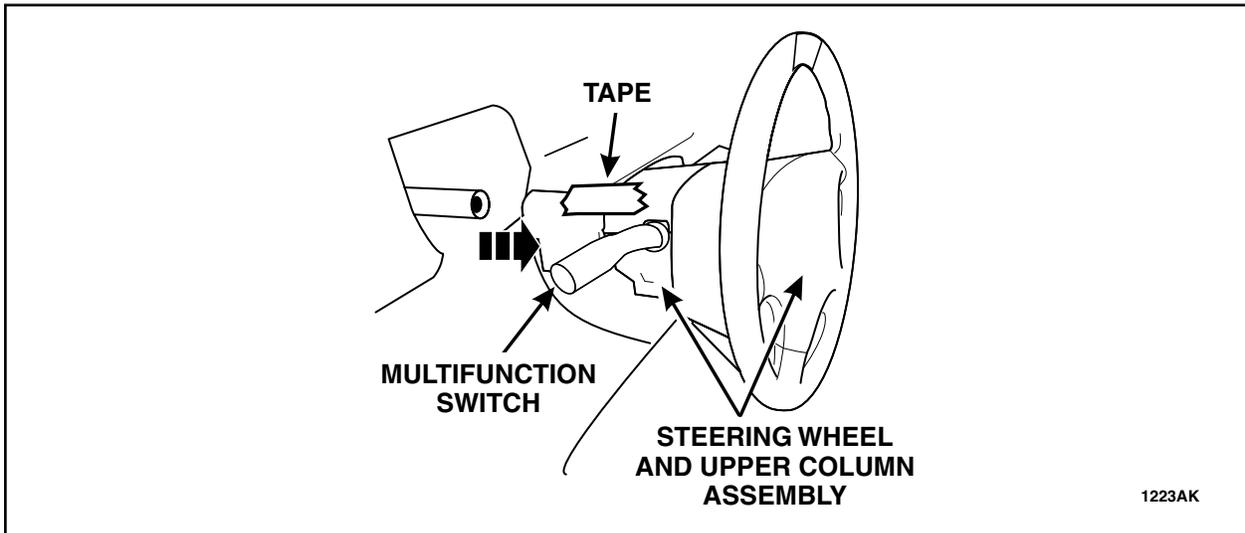

FIGURE 9
13. Tape the wheel to the Multifunction Switch (MFS) to prevent rotation of the wheel. Pull out and remove the steering wheel and upper column assembly as a single unit. See Figure 9.